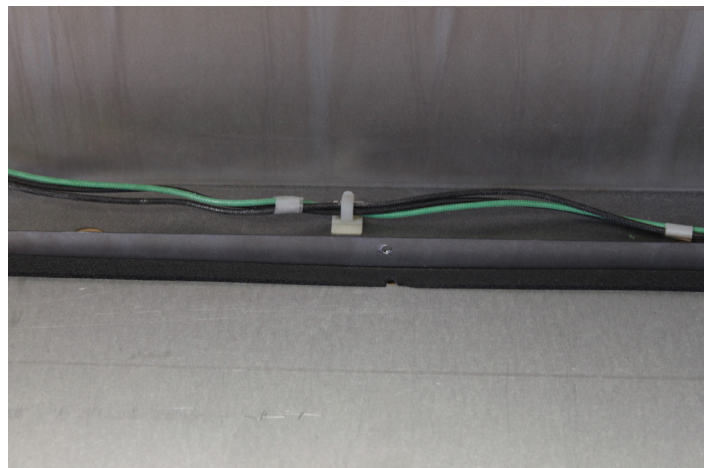

Figure 7
9. Snap the wire harness into the white plastic wire retention clip located at the center bottom of the fireplace. **See Figure 7.**